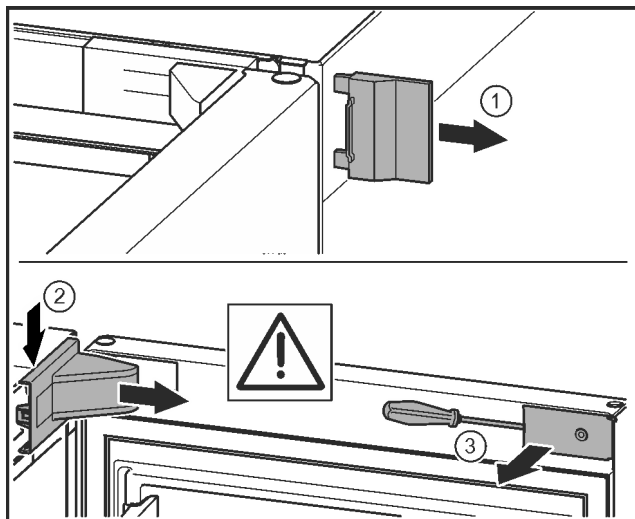

Fig. 21 \*
- Remove the outer cover. Fig. 21 (1) \*
- Disengage and release the bearing bracket cover. Remove the bearing bracket cover. Fig. 21 (2) \*
- Unlatch the panel with a slotted screwdriver and swivel it to one side. Fig. 21 (3) \*